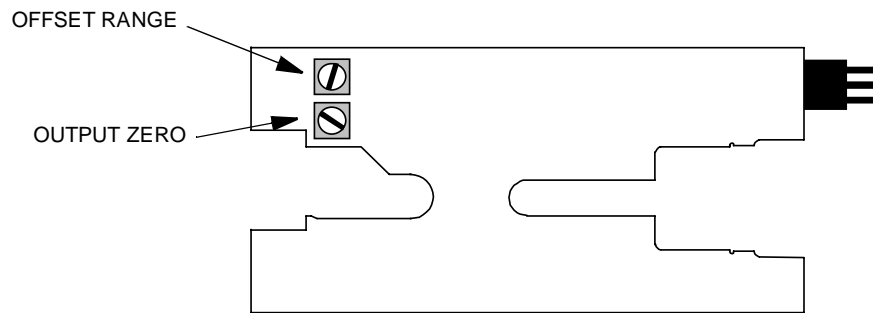

Figure 8-2 Adjustment Locations
6. Adjust **OFFSET ZERO** on the board until the DMM reads 0 V $\pm 100 \mu\text{V}$. Refer to figure 8-2 for adjustment location.